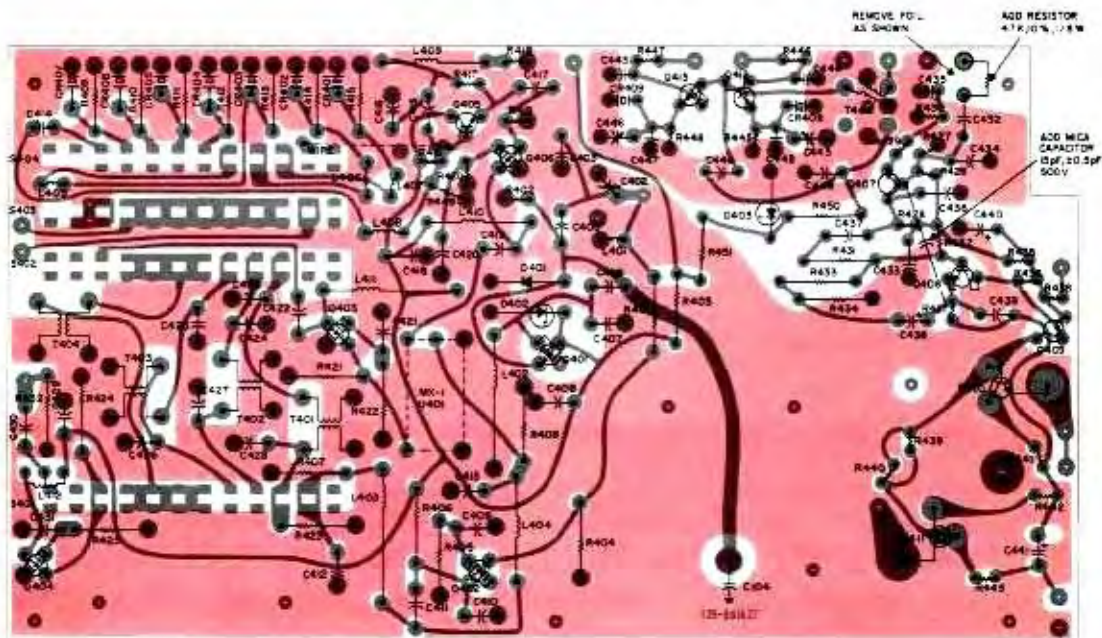

Figure 3. Component Layout on VFO/Pre-mixer/Audio Amplifier PC Board.
Audio Amplifier PC Board at the audio input as shown in figure 3.
10. Install a 4.7 k ohm, 10%, 1/8 W resistor across the open foil as shown in figures 3 and 4.
11. Install a 15 pF, ± 0.5 pF, 500 V, mica capacitor as shown in figures 3 and 4. Use sleeving on both leads to prevent shorting.